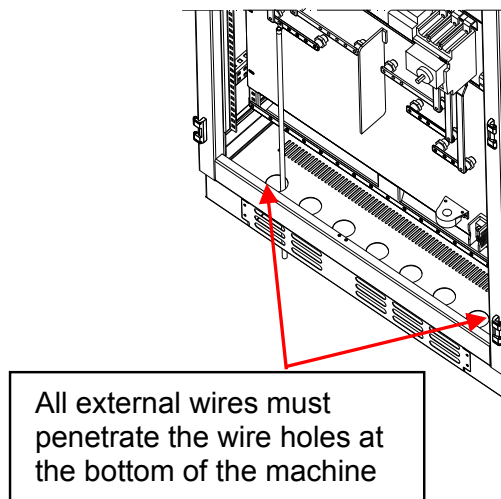

Figure 3-6 Sketch of external wiring
4. Remove the transparent Plexiglas cover at the bottom of the machine and install the external wires after the front door is open (as shown in Figure 3-6).